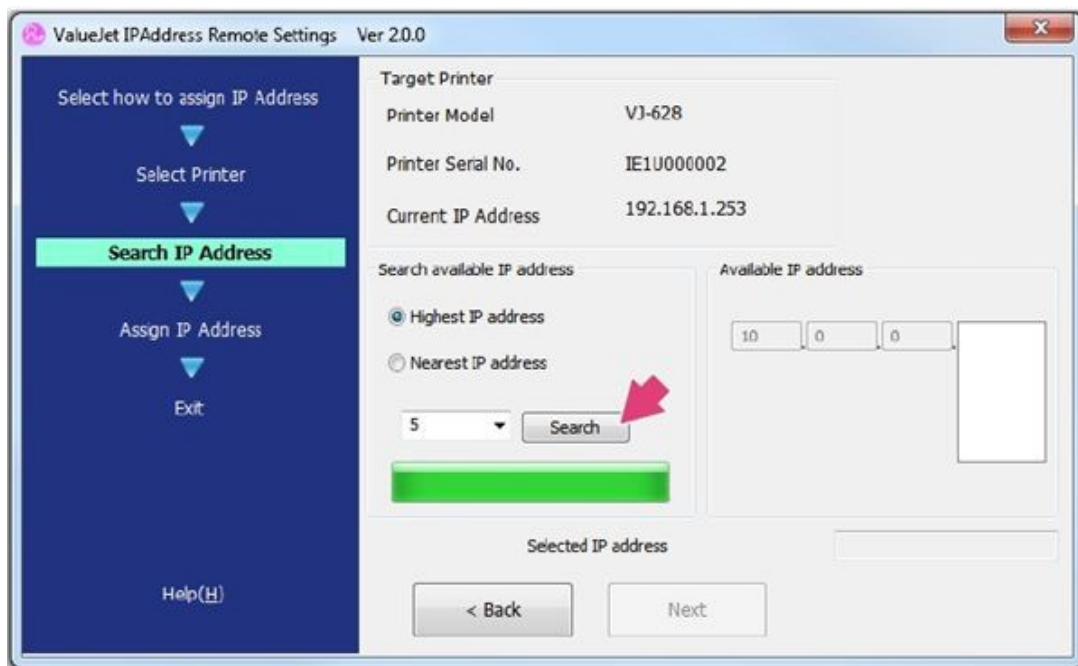

Figure 22
9. Select **Next** to begin a search for available IP addresses. See Figure 22.